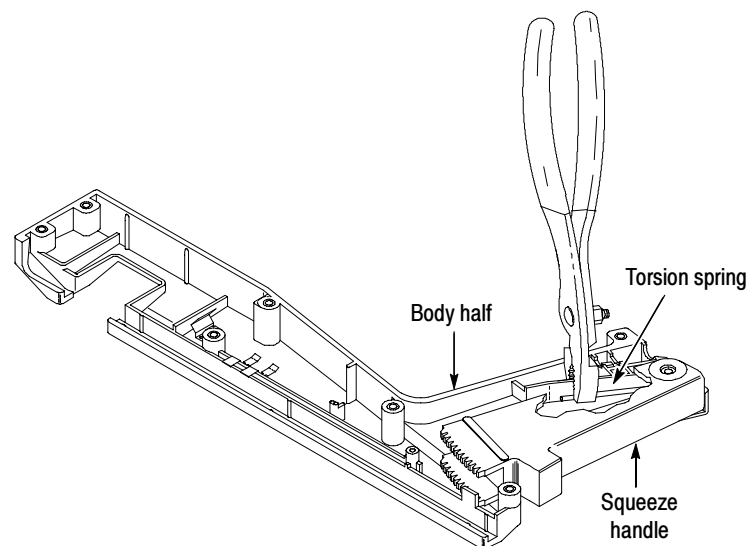

Figure 8: Removing the handle
6. Lift the cable out of the probe handle and insert a pair of pliers in the handle as shown in Figure 8.
7. While maintaining a firm grip on the pliers, carefully lift the squeeze handle and gear out of the probe. See Figure 8.